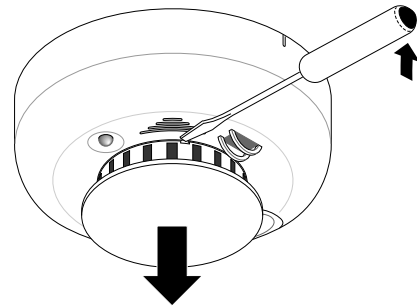

Figure 6 - Removing Detector Cap
4. Slide a flat-blade screwdriver in the slot on the detector cap and gently push the handle down to pry the cap up and off. See Figure 6.